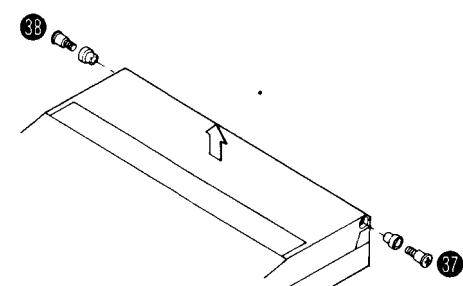

Fig. 13
6. Remove the 2 setscrews (Fig. 13: 37, 38) of the dust cover. Then the dust cover can be removed.